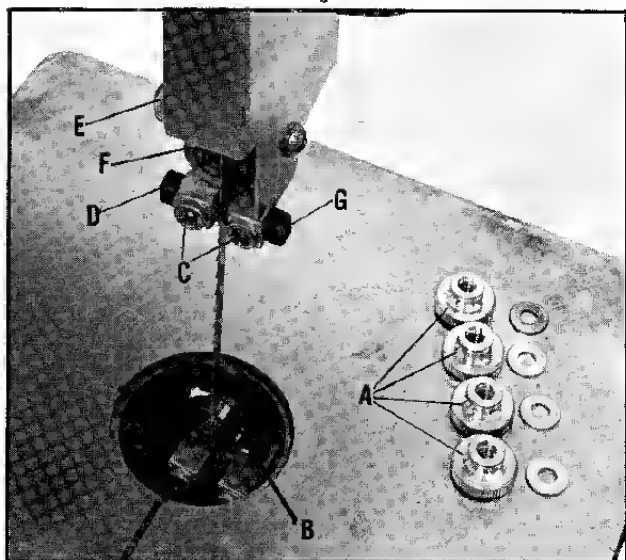

Fig. 27
2. Remove the four knurled knobs (A) Fig. 27, and washers, and remove the front cover from the band saw.
5. Remove the lower blade support bearing (B) Fig. 27, from the machine.
6. Loosen screws (C) Fig. 27, remove blade guide (D) and move blade guide (G) to the right out of the way. Follow this same procedure on the lower blade guides.